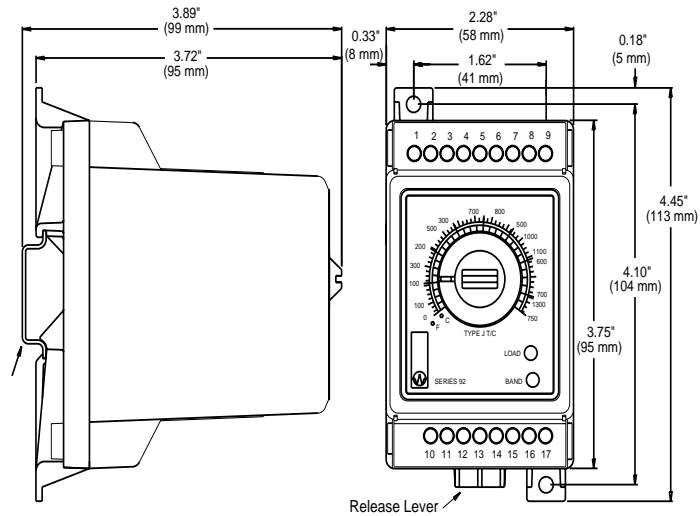

Figure 1 - Series 92 Dimensions
2. Drill two 0.19" (5 mm) diameter holes in desired panel location. See Figure 1.